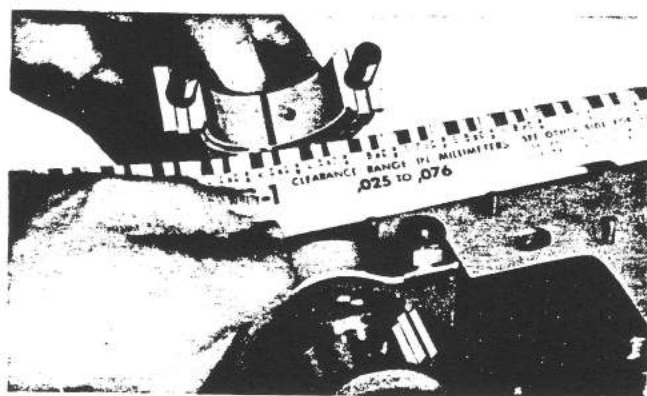

Fig. 91
- Loosen the cap bolts and remove the connecting rod and place the plastigauge as shown in Fig. 91.